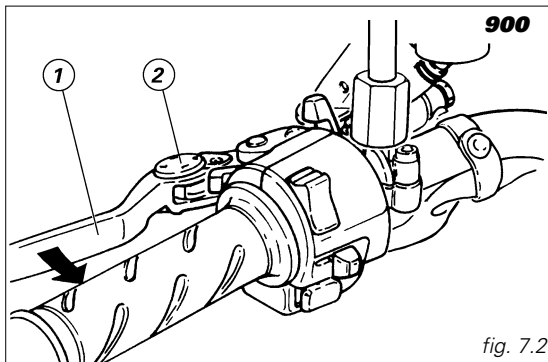

fig. 7.2
Lever (1) (fig. 7.2) disengages the clutch. It features a dial adjuster (2) (fig. 7.2) for lever distance from the twistgrip on handlebar.
To set lever distance from twistgrip, push lever (1) (fig. 7.2) fully forward and turn the dial adjuster (2) (fig. 7.2) to one of its four positions. Remember that position no. 1 gives maximum distance between lever and twistgrip, whereas lever and twistgrip are closest when adjuster is set to position no. 4.